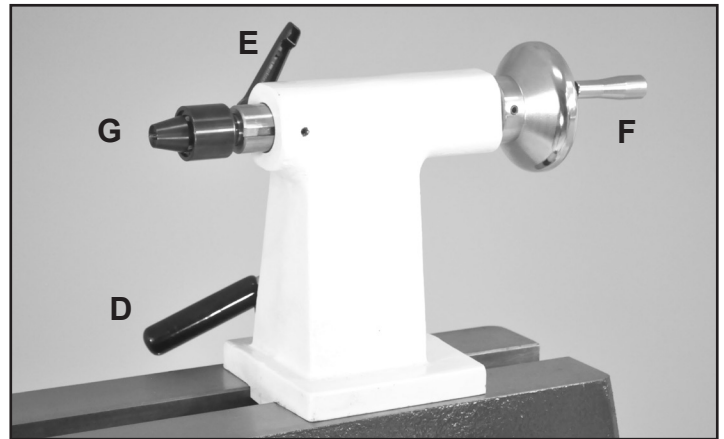

FIG. 5
1. **TAILSTOCK LOCK HANDLE:** (FIG. 5, D) Locks the tailstock in position along the length of the lathe bed. Unlock handle to position the tool rest to move the tailstock. Tighten handle when properly positioned.
2. **TAILSTOCK QUILL LOCK HANDLE:** (E) Secures the tailstock quill in position. Unlock the handle to move the quill, with live center, forward or backwards. Tighten the locking handle when the quill is finally positioned.
3. **TAILSTOCK QUILL HANDWHEEL:** (F) The handwheel advances or retracts the quill 0 to 2-1/2". The tailstock quill lock handle (E) must be loose to move the quill.
4. **TAILSTOCK LIVE CENTER:** (G) Used for turning between centers. The Live Center (#84) and the Quill (#83) have MT-2 tapers. Remove the live center by retracting the quill until the center loosens, or use the knockout bar.